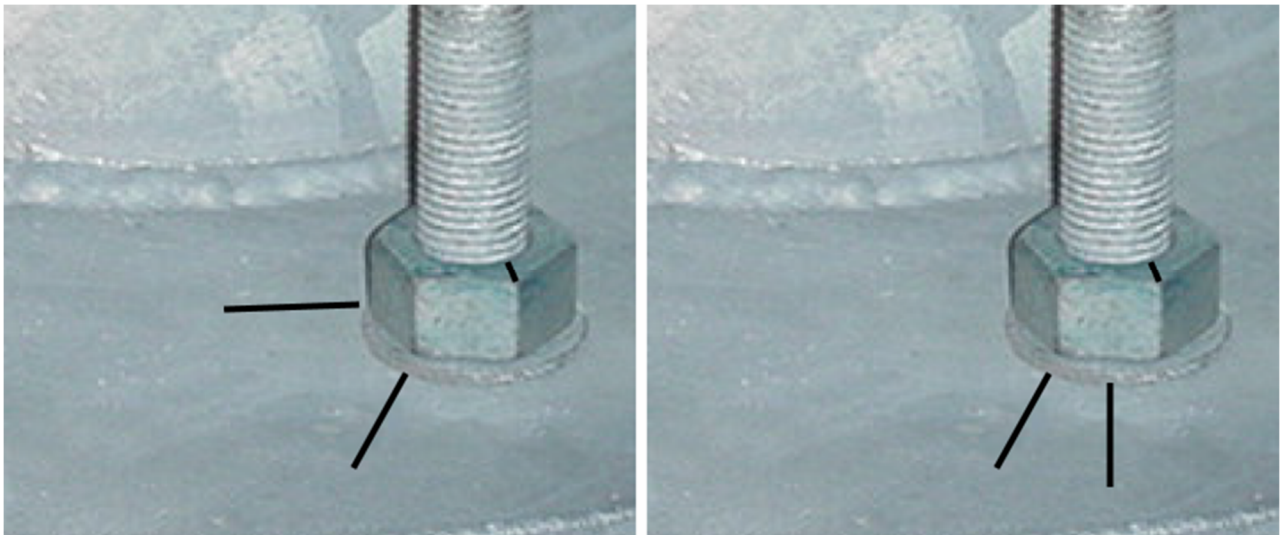

Figure 3 - Snug tight condition reference marks for bolts 1-1/2" (3.8 cm) diameter or less (left) and bolts greater than 1-1/2" diameter (3.8 cm) (right) .
- 4.2 After all nuts have been snug tightened and the necessity or unnecessary for repeating the snug tightening procedure with beveled washers has been determined and performed if required, snug tight condition reference marks are to be placed on the nut and base plate using a permanent marker to prepare for the full tightening procedure (see Figure 3 below). One reference mark is to be placed on the top of the nut at one of the corners. One reference mark is to be placed on the base plate such that this reference mark and the reference mark on top of the nut will be aligned when the nut is rotated one half of the amount specified in Section 4.3.1. An additional reference mark is to be placed on the base plate such that this reference mark and the reference mark on top of the nut will be aligned when the nut is rotated the complete amount specified in Section 4.3.1. All reference marks are to be placed such that they will remain visible when the tightening wrench is placed on the nut.